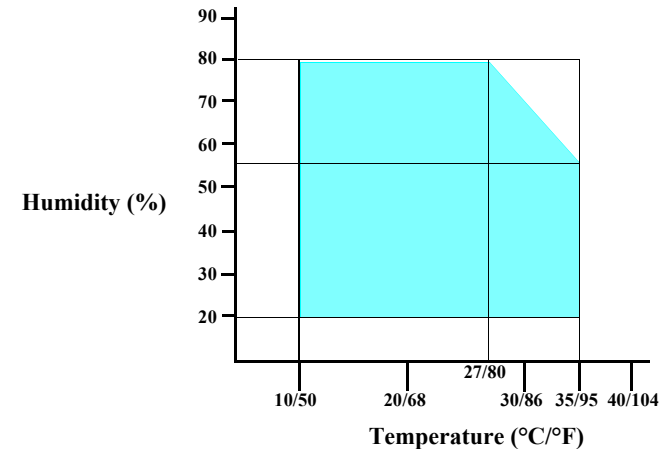

Figure 1-4. Temperature/Humidity Range
- Note *1: The combined Temperature and Humidity conditions must be within the blue-shaded range in Fig.1-4.